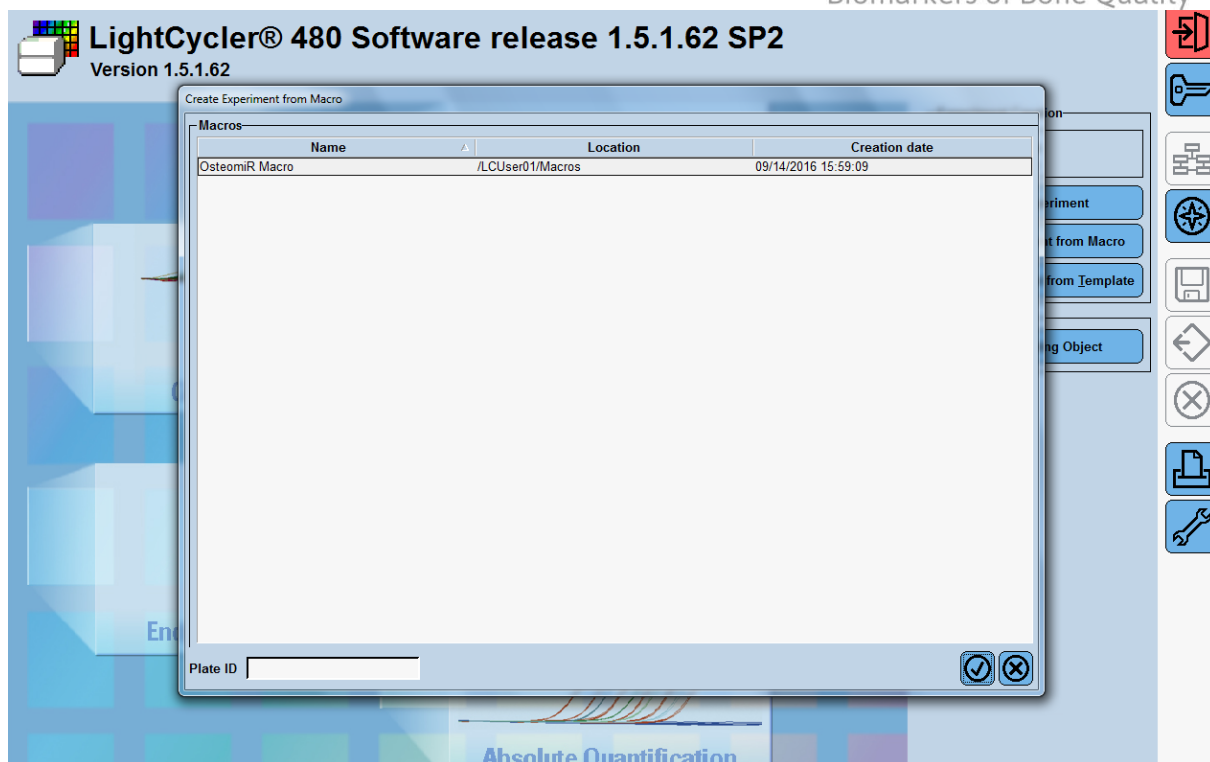

Figure 6: Start the osteomiR™ Macro by selecting it and confirm with
3. Select “New Experiment from Macro”. The window shown in Figure 6 will appear.